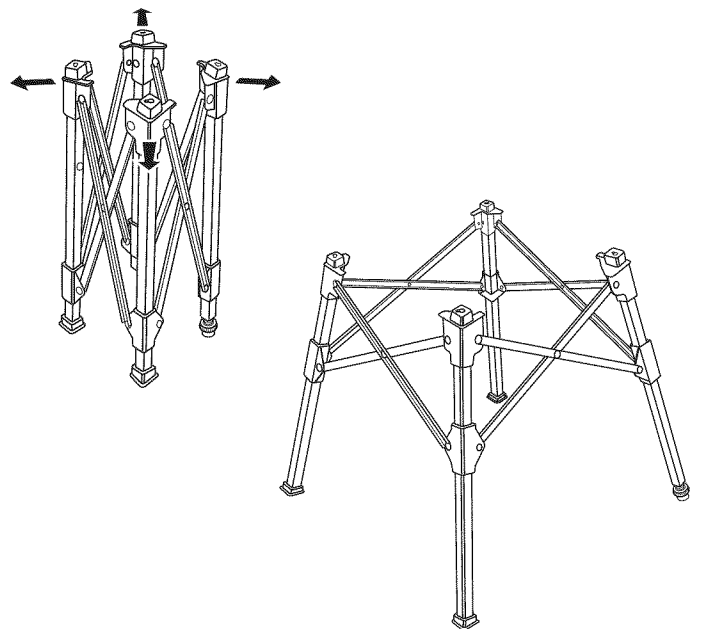

Fig. 2
See Figures 2 - 4.
- Place the leg stand on the floor then open the leg stand by pushing opposite legs in opposite directions as indicated by the arrows in figure 2.